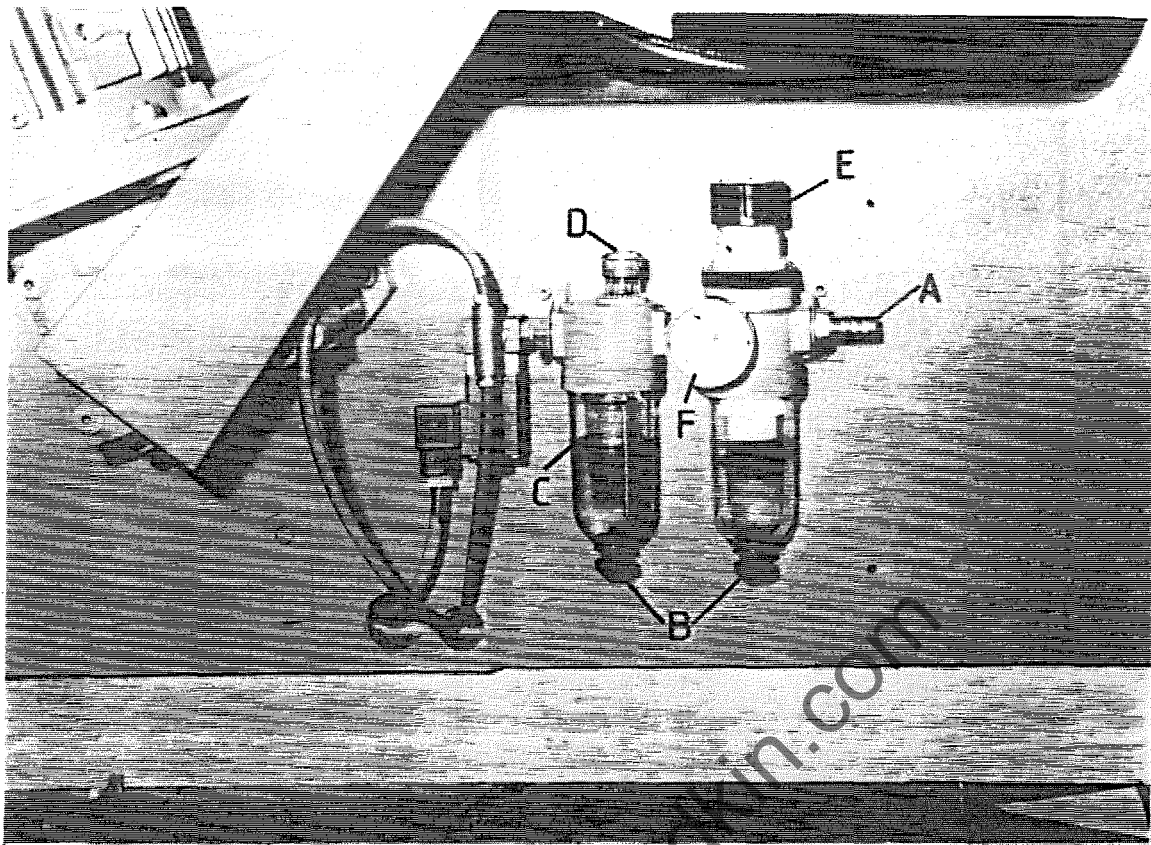

FIG. 16
- 1 The machine must be connected at point "A" FIG.16, to a compressed 'air' supply.